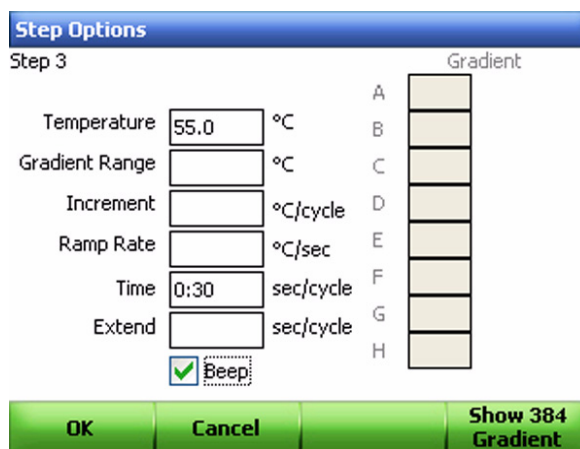

Figure 44. Select the Beep box.
- Press **ENTER** to select the Beep box and press **OK** to confirm (Figure 44).